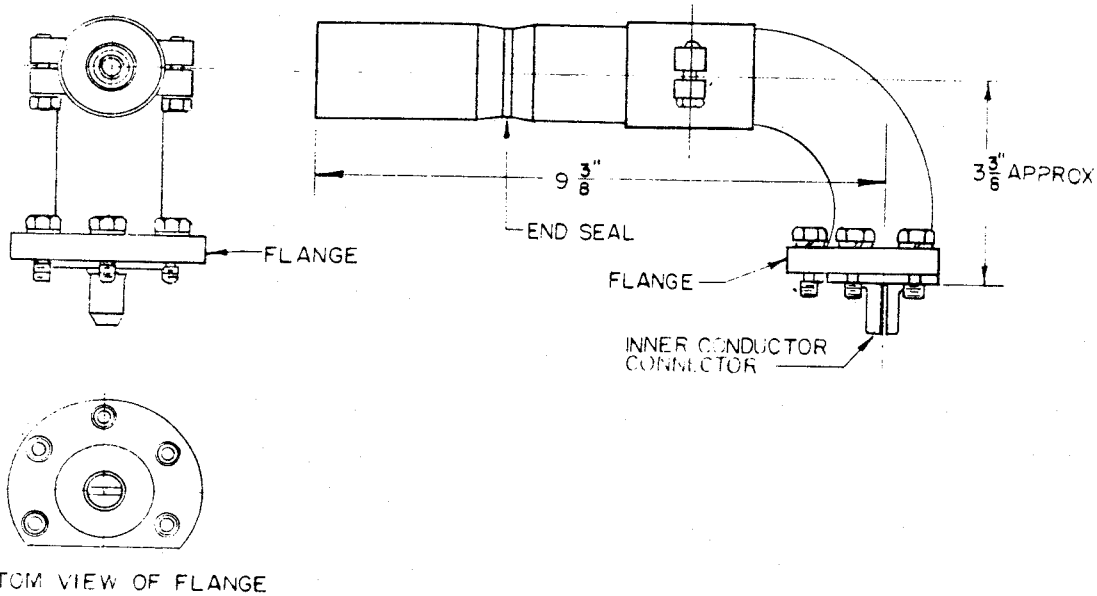

Figure 11-72. Angle End-Seal, Navy Type 10467
- g. Angle end seal (see Figure 11-72).